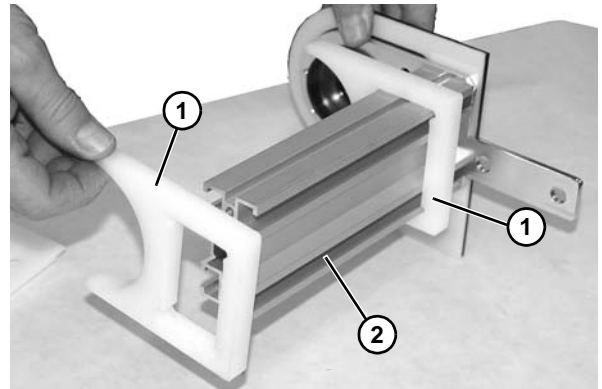

Figure 59
19. Remove gap filler plates (**Figure 59, item 1**) from crossmember (**Figure 59, item 2**).